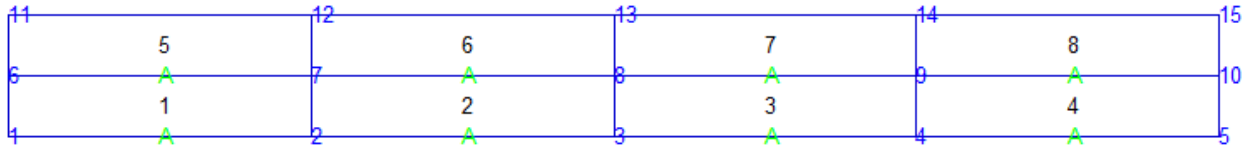

Figure 1: Sample 4×2 mesh of Q4 elements
The corresponding plot of the mesh is shown in Fig. 1. Notice the node numbers (blue) and element numbers (black). The green A identifies the first edge in every element.
cantilever should be fixed. The tip-load should be divided in half and applied to the top-rightmost and bottom-rightmost nodes in your mesh. For example, in Fig. 1, this would be loads of $P/2$ each applied to nodes 5 and 15.
7. Conduct a mesh convergence study using your FE program. Use the vertical displacement of the bottom-rightmost node (e.g. this would be node 5 in Fig. 1) v^{tip} to check for convergence, while comparing against the analytical expression v^{th} above. Do this study for the following sets of mesh parameters: